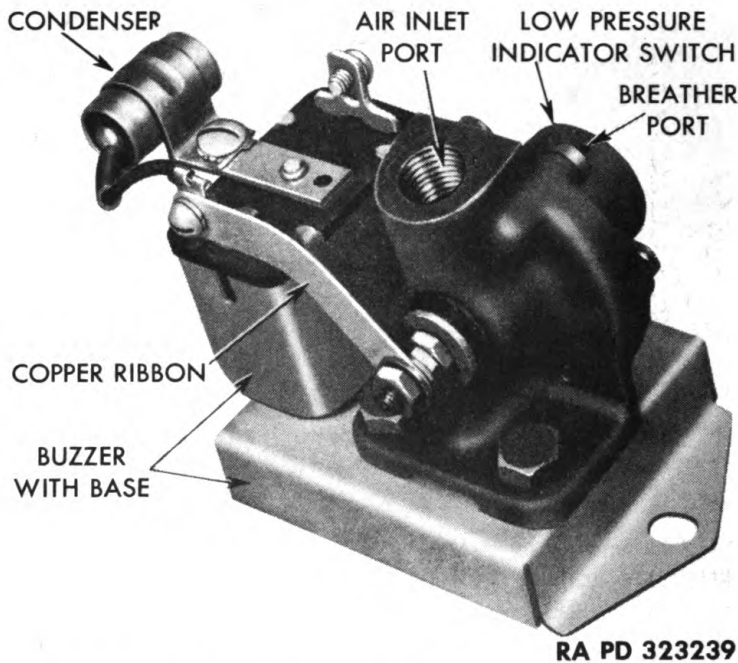

Figure 244 — Low Pressure Indicator Switch and Buzzer Assembly
a. **Description** (figs. 244 and 245). This switch is part of an assembly which includes a warning buzzer with a mounting base. The assembly is attached to the underside on the cowl on the tractor. The switch consists of a cast bronze body to which is attached a cast bronze cover. These are held together by six machine screws and lock washers. Clamped between the cover and body, making an airtight seal, is a diaphragm containing a movable contact screw. The switch body contains a stationary insulated contact terminal, an air inlet port with a threaded opening, and a mounting bracket which is an integral part of the body casting. A small drilled hole in the cover serves as a breather port.
(1) **REMOVE SWITCH** (fig. 244). Remove two cap'screws, nuts, and lock washers attaching switch to buzzer base. Remove nut and lock washer from contact terminal, and remove switch.